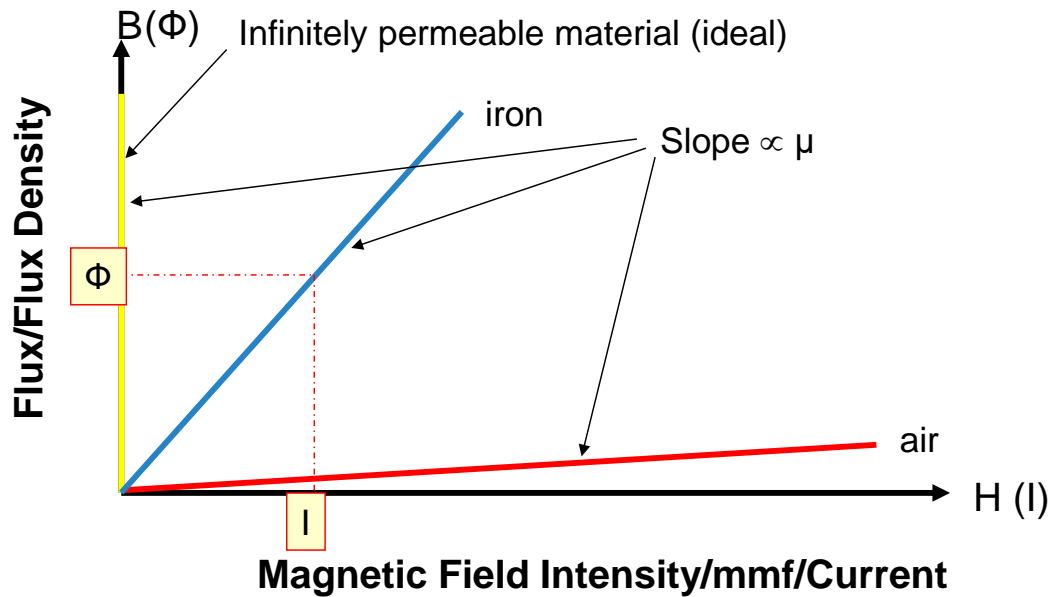
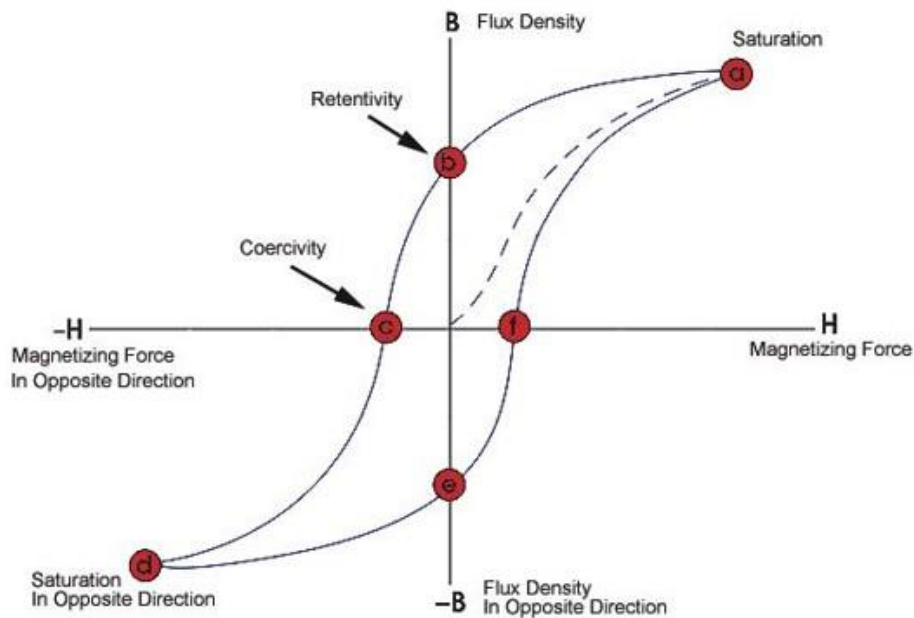

Figure 5. Simplified B-H curve
Figure 6 B-H curve for a Ferromagnetic Material
We can draw a B-H curve based on equation (12) as shown in Figure 5. The figure illustrates that to set up a flux in the iron core we will need a certain value of current, called the magnetizing current.
Ferromagnetic material that is used in transformers has a much more complicated **B-H** curve than that shown in Figure 5. A typical **B-H** curve is shown in Figure 6.
If we cycle the magnetic field between the two saturation points we will get the Hysteresis loop (B-H curve) shown in figure 6. It is obvious from the B-H curve that magnetization and the flux density inside the material lag the applied field.